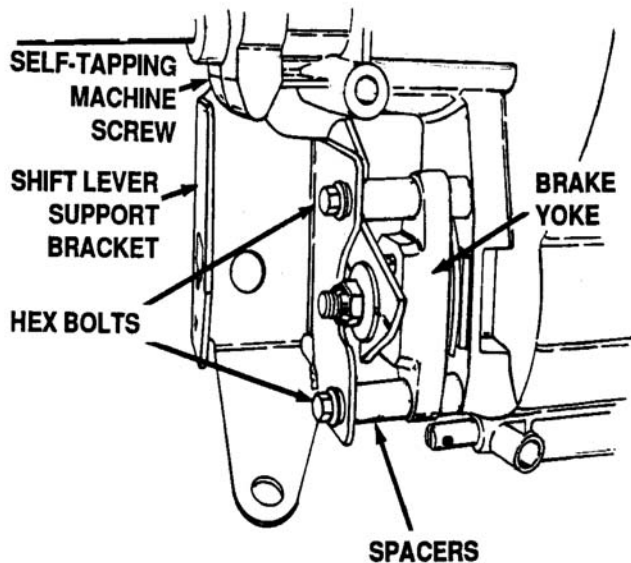

Figure 6-7. Shift Lever Support Bracket
1. Remove the shift lever support bracket from the transaxle, by removing one self-tapping screw on top of transaxle and two hex bolts on side of transaxle at brake. See Figure 6-7.